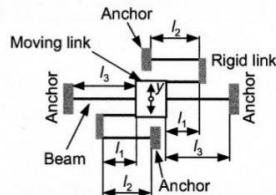

FIGURE 2.41
- 2.7 Determine the equivalent lumped-parameter spring model of the six-beam microdevice sketched in Figure 2.41, and evaluate the stiffness of the single equivalent spring to be attached to the moving rigid link along the y direction. All beams have identical square cross section with side length $h = w = 1 \mu\text{m}$. Known also are $l_1 = 100 \mu\text{m}$, $l_2 = 140 \mu\text{m}$, $l_3 = 200 \mu\text{m}$, and the beams Young's modulus $E = 155 \text{ GPa}$. The allowable displacement of the moving link is $10 \mu\text{m}$. Calculate the corresponding force f_y applied at the moving link center along the y direction.